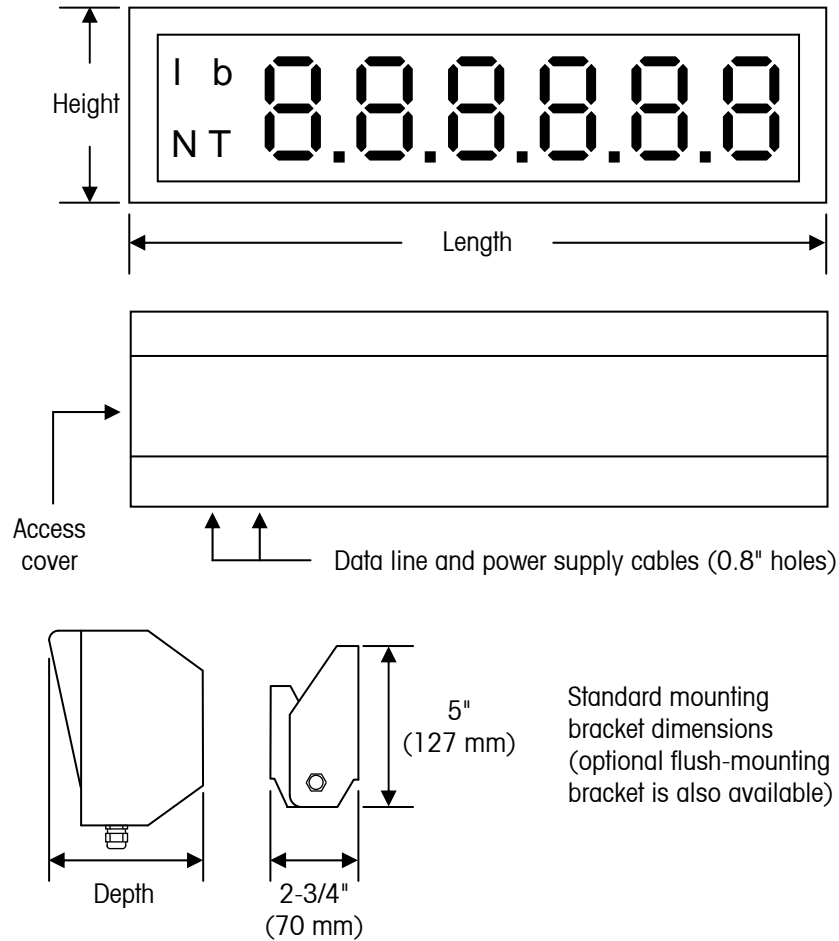

Figure 1-1: Scoreboard Dimensions
The scoreboard's enclosure is made of a tempered aluminum alloy with a polyester powder coating. The dimensions are shown in Figure 1-1 and Table 1-1.
1. Remove the access cover located at the end of the scoreboard closest to the power supply cable and data line cable (see Figure 1-1).
2. Remove the access cover from the end of the scoreboard closest to the power supply cable (see Figure 1-1). The receiver is mounted on the scoreboard PCB.